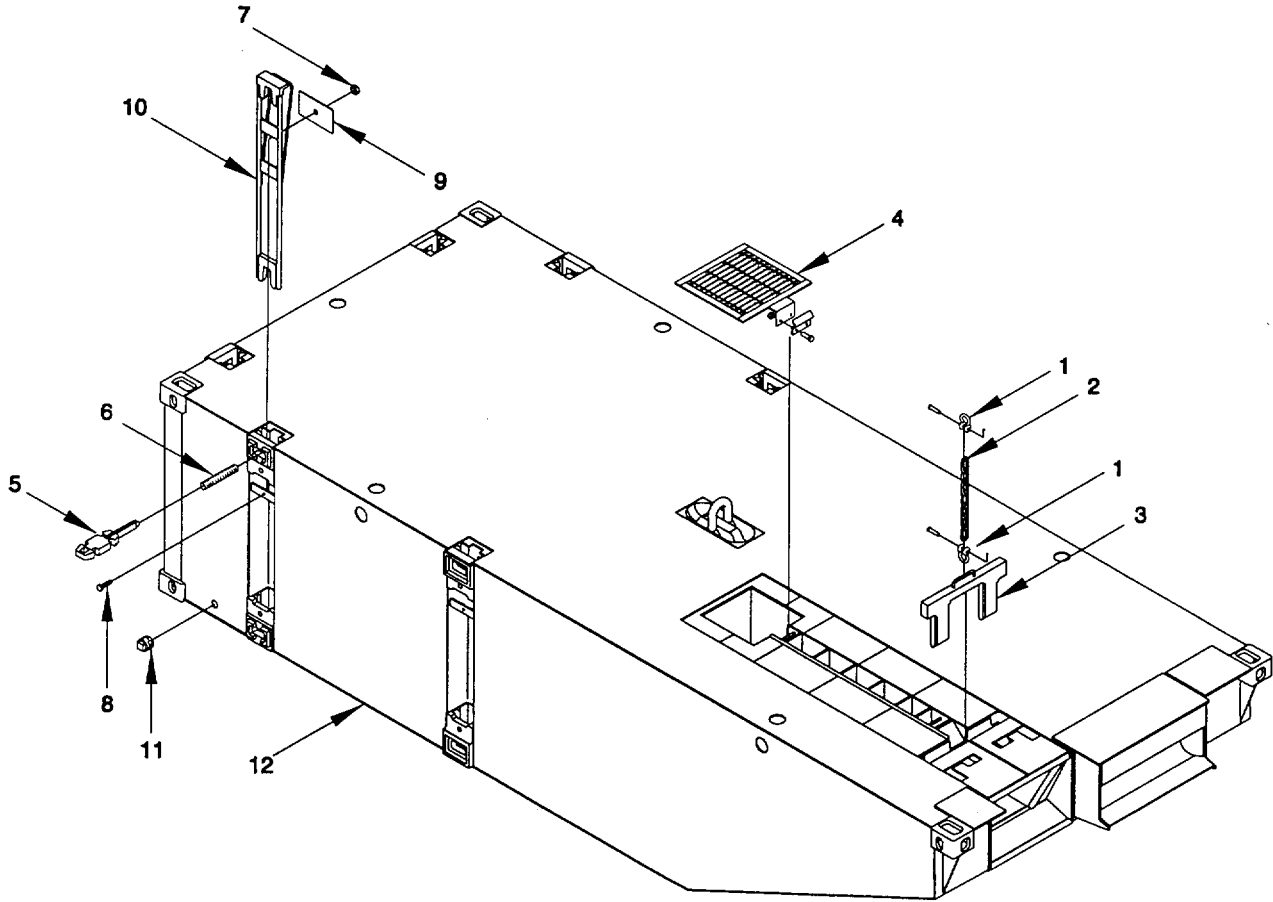

Figure 2-90. P20RR 20' Right Raked Pontoon Assembly, Service/Repair.
a. Service. (figure 2-90)
- (1) Lubricate end rake hatches (4) and hinges.
- (2) Check connector (5) assemblies.
- (3) Push up on retainer on underside of connector pin to release pin from male connector assembly housing. Remove connector pin to expose deployment spring. Remove spring and inspect spring for cracks or cuts (replace as necessary) Lubricate spring using a light coat of lubriplate grease.
- (4) Use a sponge to remove water from lift shackles.
- (5) Wire brush and spot paint any exposed or rusting surfaces.
b. Repair. (figure 2-90)**NOTE**